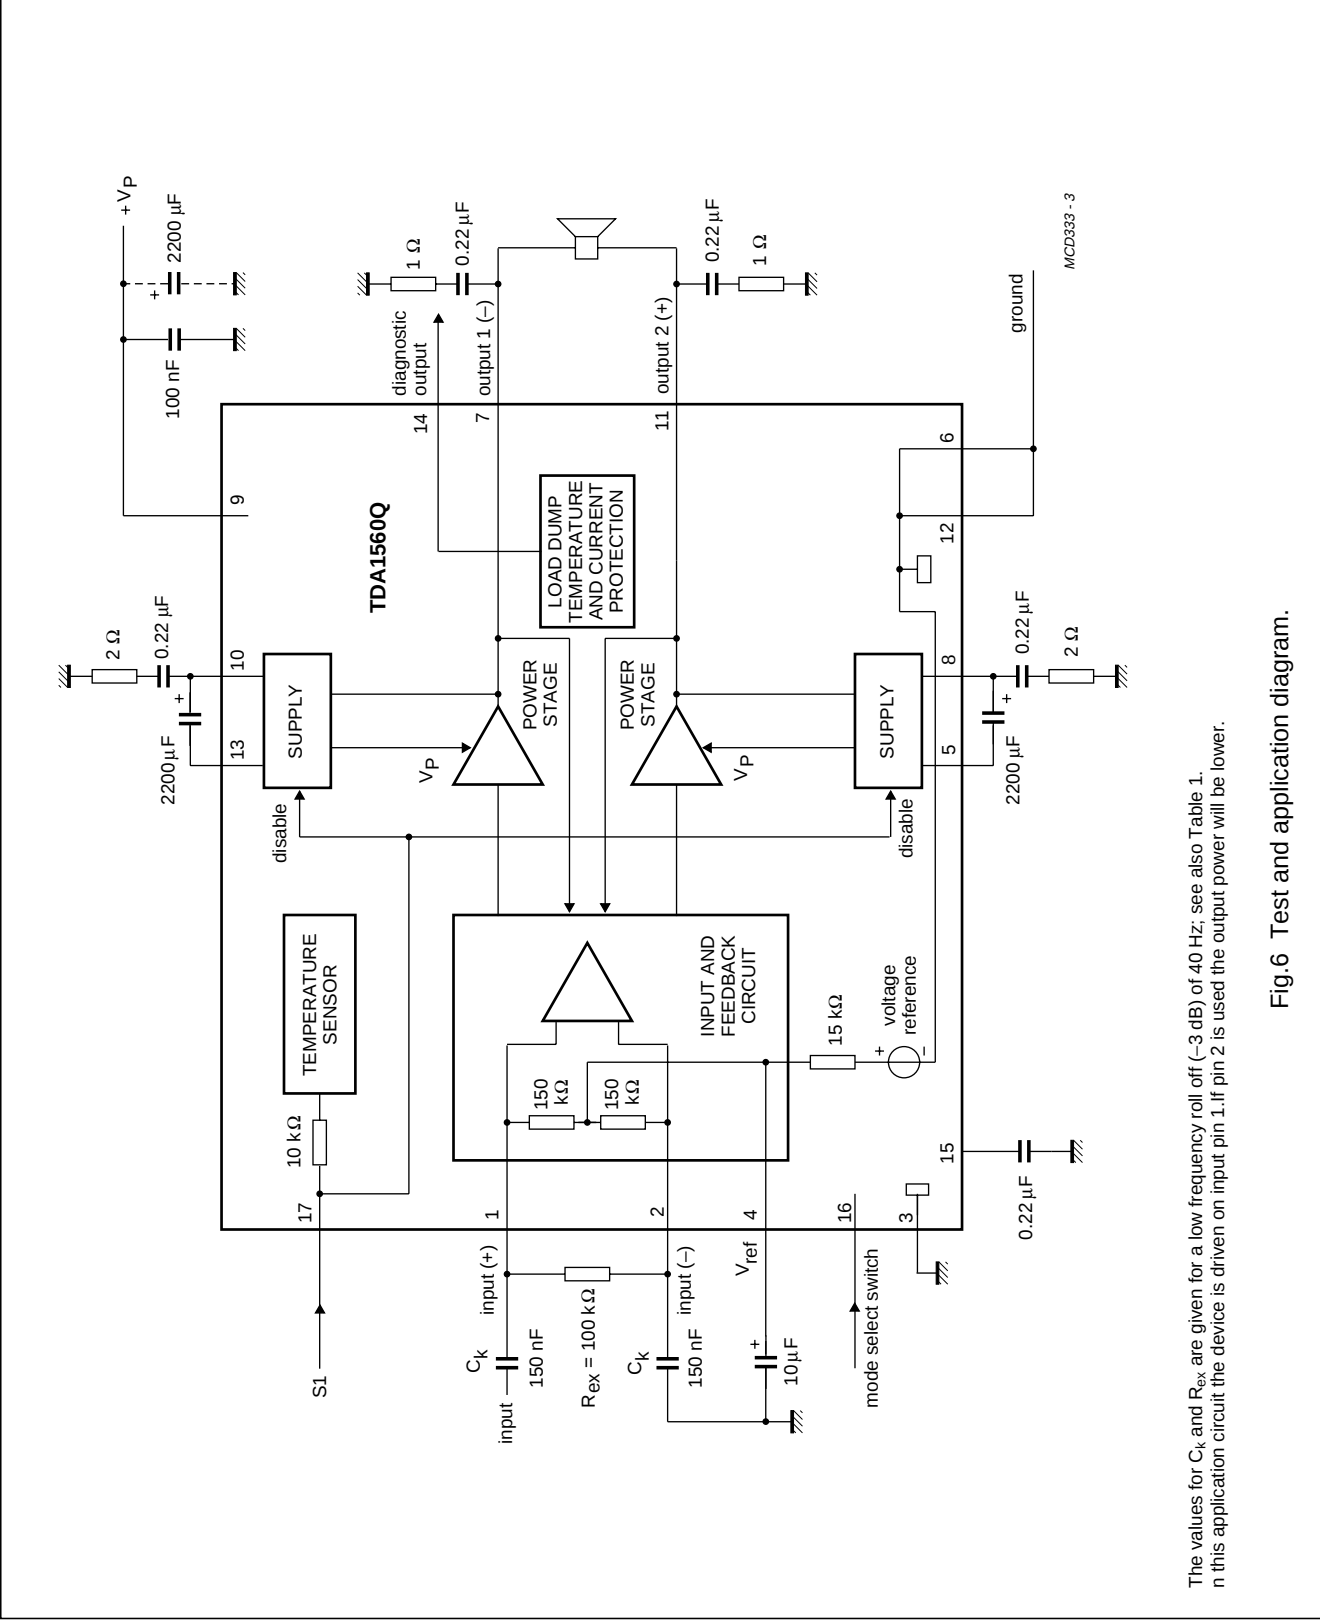

Fig.6 Test and application diagram.
$V_P = 14.4\text{ V}$; $R_L = 8\ \Omega$; $T_{\text{amb}} = 25\text{ }^\circ\text{C}$ and using 4 K/W heatsink; measured in Fig.6; unless otherwise specified.
$V_P = 14.4\text{ V}$; $R_L = 8\ \Omega$; $f_i = 1\text{ kHz}$; $T_{amb} = 25\text{ }^\circ\text{C}$ and using 4 K/W heatsink; measured in Fig.6; unless otherwise specified.
1. With a continuous sine wave input signal the output power is approximately 1 W less than driven with a burst signal; also depending on the equivalent series resistance of the electrolytic capacitors C1 and C2 (see Fig.6) and the resistance of the connections between pins 5, 8, 10 and 13 and C1, C2.